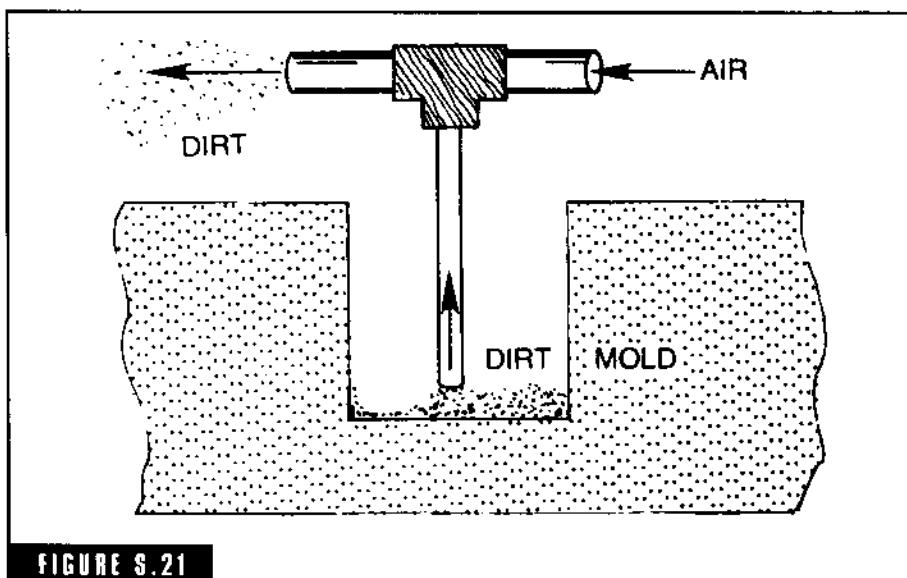

FIGURE S.21
**sucker** The sucker is not a purchased tool but one made by the molder. It consists of two pieces of tubing and a tee of copper or iron (Fig. S-21).